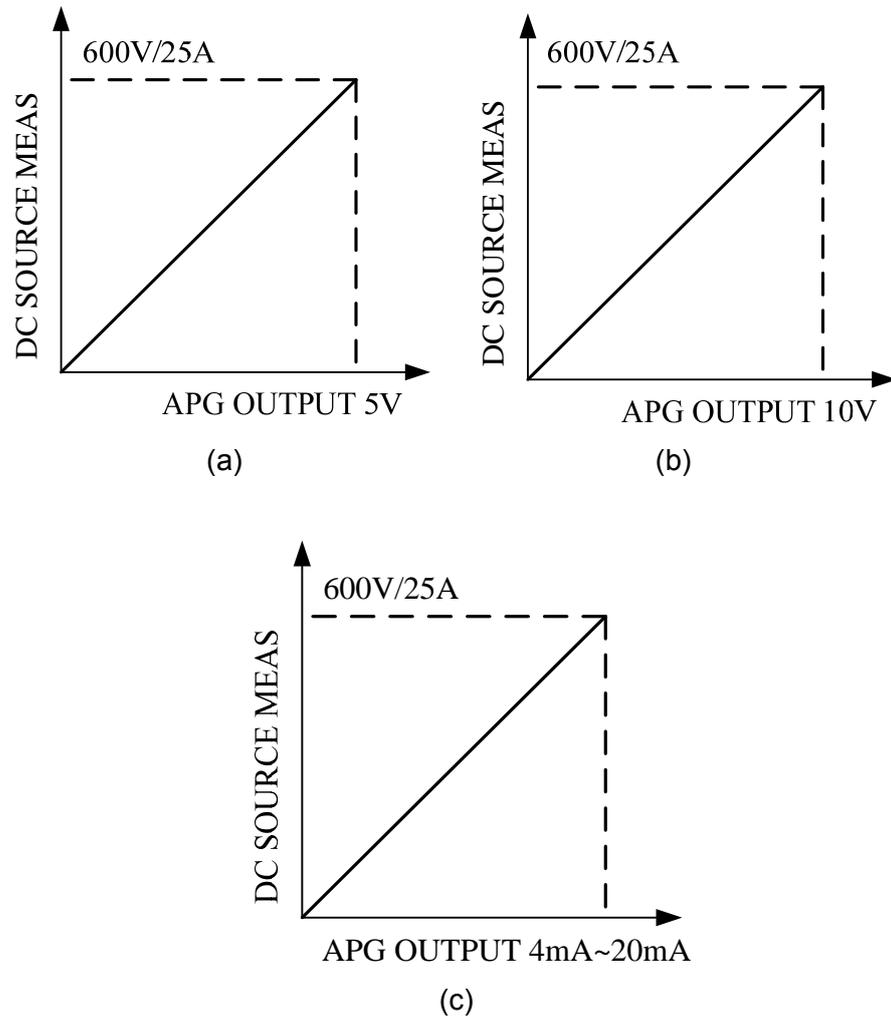

Figure 3-8
- a. When selecting $V_{ref}=5V$ → it means the DC Power Supply's measurement output $0 \sim 600V/0A \sim 25A$ will map to $0\sim 5V$ as Figure 3-8 (a) shows.
- b. When selecting $V_{ref}=10V$ → it means the DC Power Supply's measurement output $0 \sim 600V/0A \sim 25A$ will map to $0\sim 5V$ as Figure 3-8 (b) shows.
- c. When selecting $I_{ref}=4\sim 20mA$ → it means the DC Power Supply's measurement output $0 \sim 600V/0A \sim 25A$ will map to $4mA\sim 20mA$ as Figure 3-8 (c) shows.